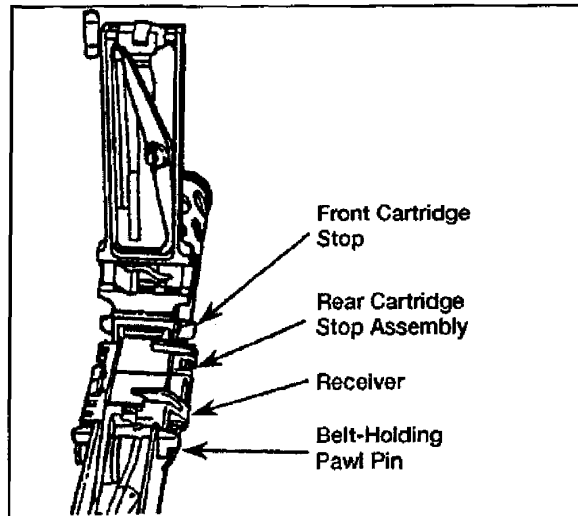

Figure 071-022-0001-20. Removal of the cartridge stop assemblies
(2) Press down on belt holding pawl assembly to prevent loss of springs, and remove the belt holding pawl pin. Remove belt holding pawl assembly and springs (figure 071-022-0001-21).